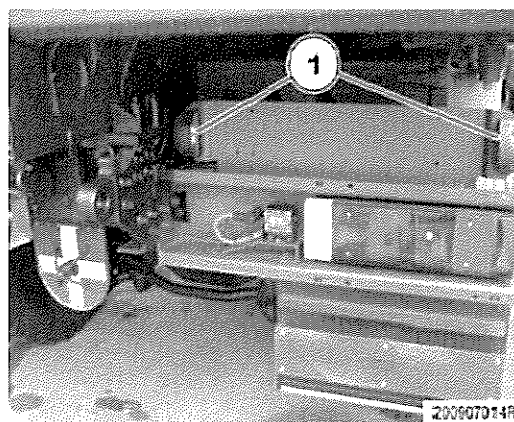

Fig 23 Replacing a licence plate lamp
62 Refer to Fig 23. The licence plate lamp (1) is an LED type.
62.1 If the licence plate lamp (1) is faulty, check the connections or contact your Unit for assistance.